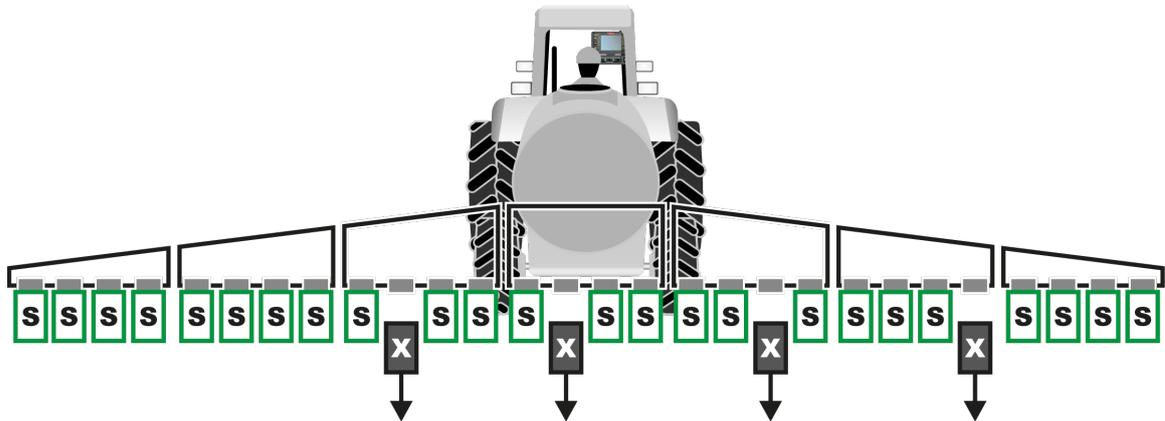

Fig. 105
- ONLY DISCONNECT THE SELETRON DEVICES THAT WERE NOT CORRECTLY PAIRED (X Fig. 105).